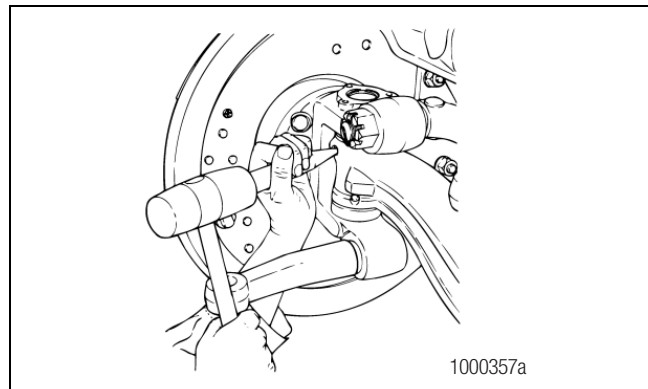

Figure 6.18
- Seat the top draw key into the front of the beam. Refer to Table F. Seat the bottom draw key into the back of the beam by striking it with a hammer and drift. The keys must align with the slots of the king pin. Do not install or tighten the locknuts before checking the knuckle end play. Figure 6.18.